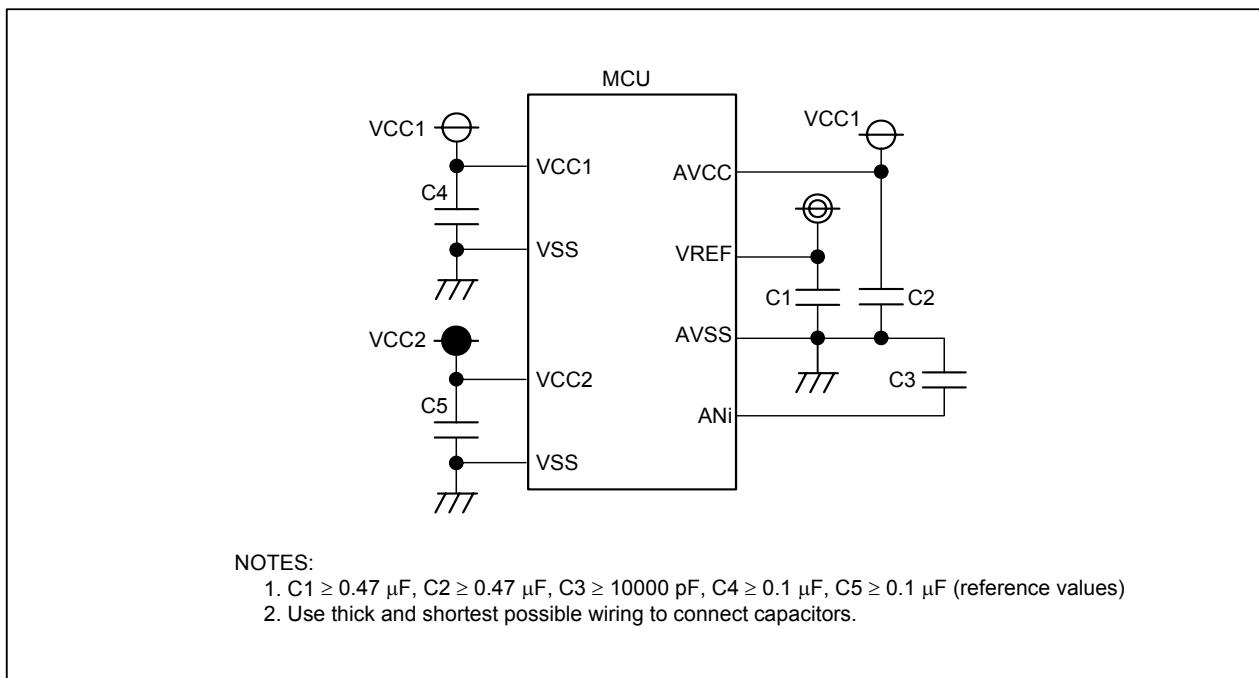

Figure 24.4 Individual Pin Handling
- To prevent latch-up and malfunction due to noise and also to minimize a conversion error, insert a capacitor between the AVSS pin and each of the following pins: the AVCC pin, VREF pin, or analog input pin AN_i_j (i = none, 15; j = 0 to 7). Insert a capacitor between the VCC pin and the VSS pin as well. Figure 24.4 shows an example of individual pin handling.